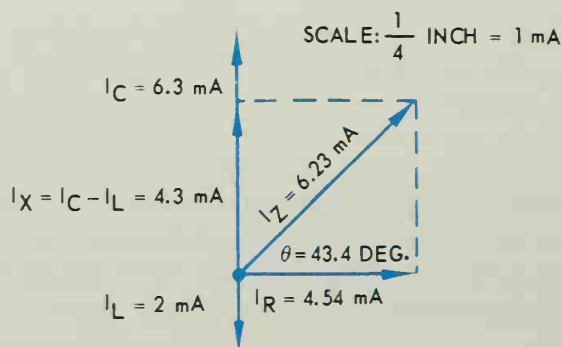

Fig. 10-13. The vector diagram for RCL circuit problem.
- Plot the current vectors as in Fig. 10-13.